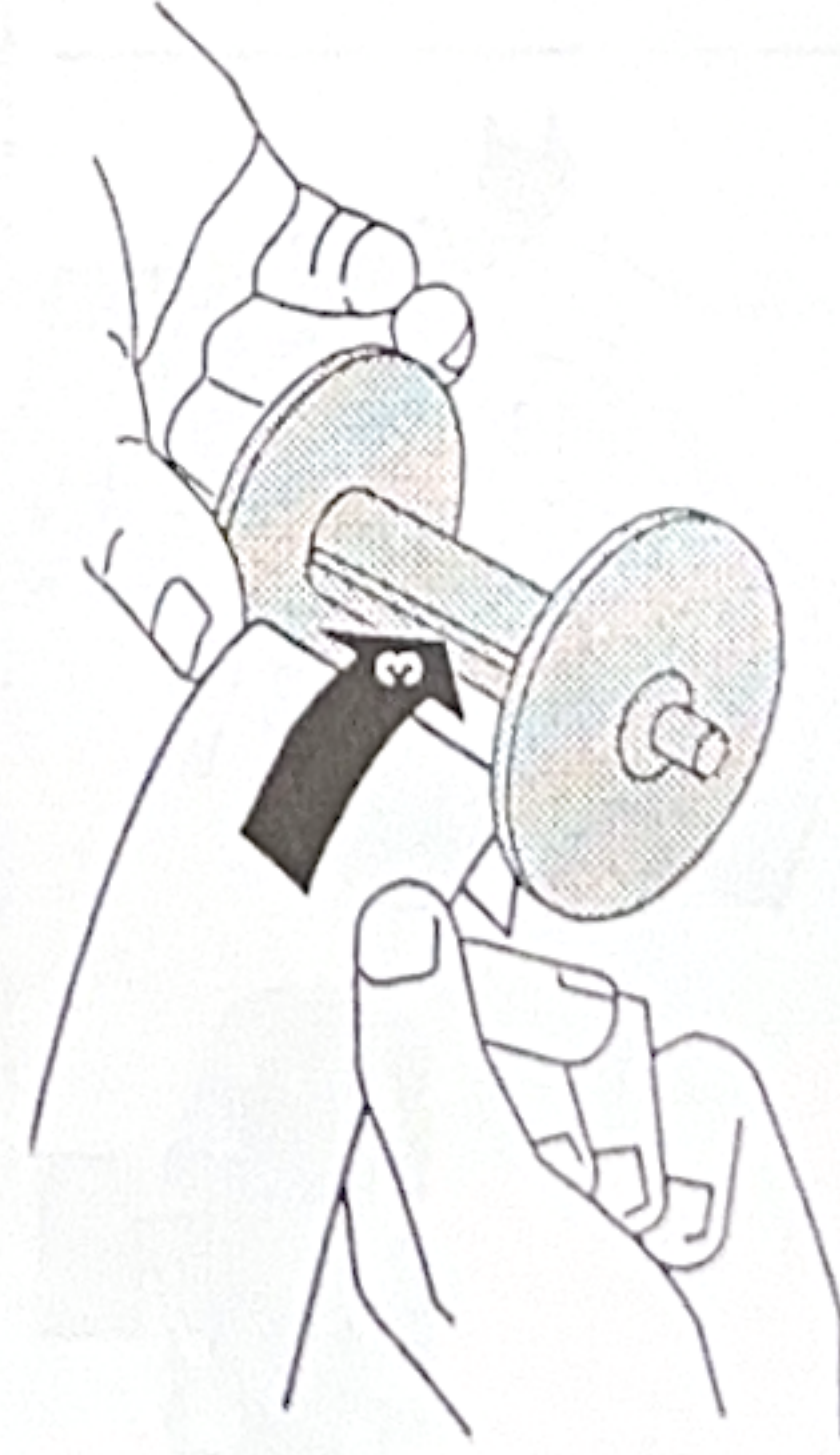

Figure 1-29
3. Insert the edge of the paper into the groove on the journal takeup spindle, with the gear on the right side. (see figure 1-29)